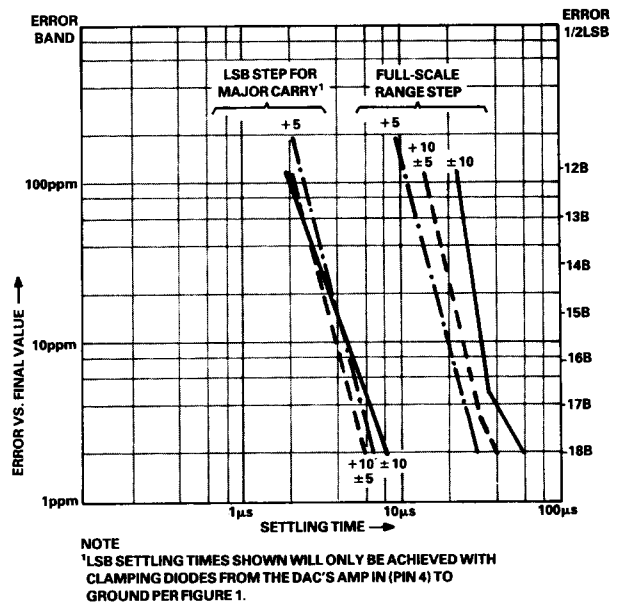

Figure 9. Settling Time vs. Resolution
- ⁵Figure 9 provides typical LSB and full-scale settling time to within 1/2LSB at 12- to 18-bit resolutions.
The LSB step and full-scale step typical settling times, to within $\pm 1/2\text{LSB}$ at 18 bits, are shown in the Specification Table. Figure 9 graphically presents the typical settling times to within $\pm 1/2\text{LSB}$ at resolutions from 12 to 18 bits.